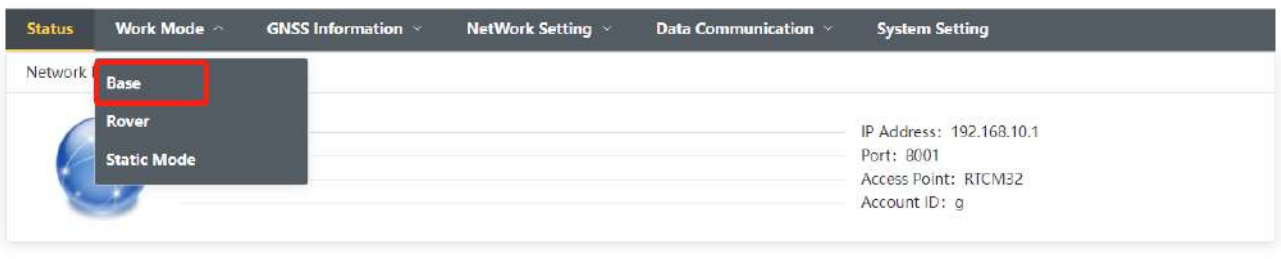

Figure 3-2-1
The L300/L600 is available to be set as **Base**, and can be started as internal **UHF/Network/Ntrip Ca**ster. Check the **Base** in work mode field as shown in Figure 3-2-1.
2. Select the **Base** work mode field, set the coordinate, antenna height, the differential message type, PDOP and mask angle as shown in Figure 3-2-1-1.
3. Select the Built-in Radio in Datalink field, set the required radio protocol, channel, frequency and power level as shown in Figure 3-2-1-2.